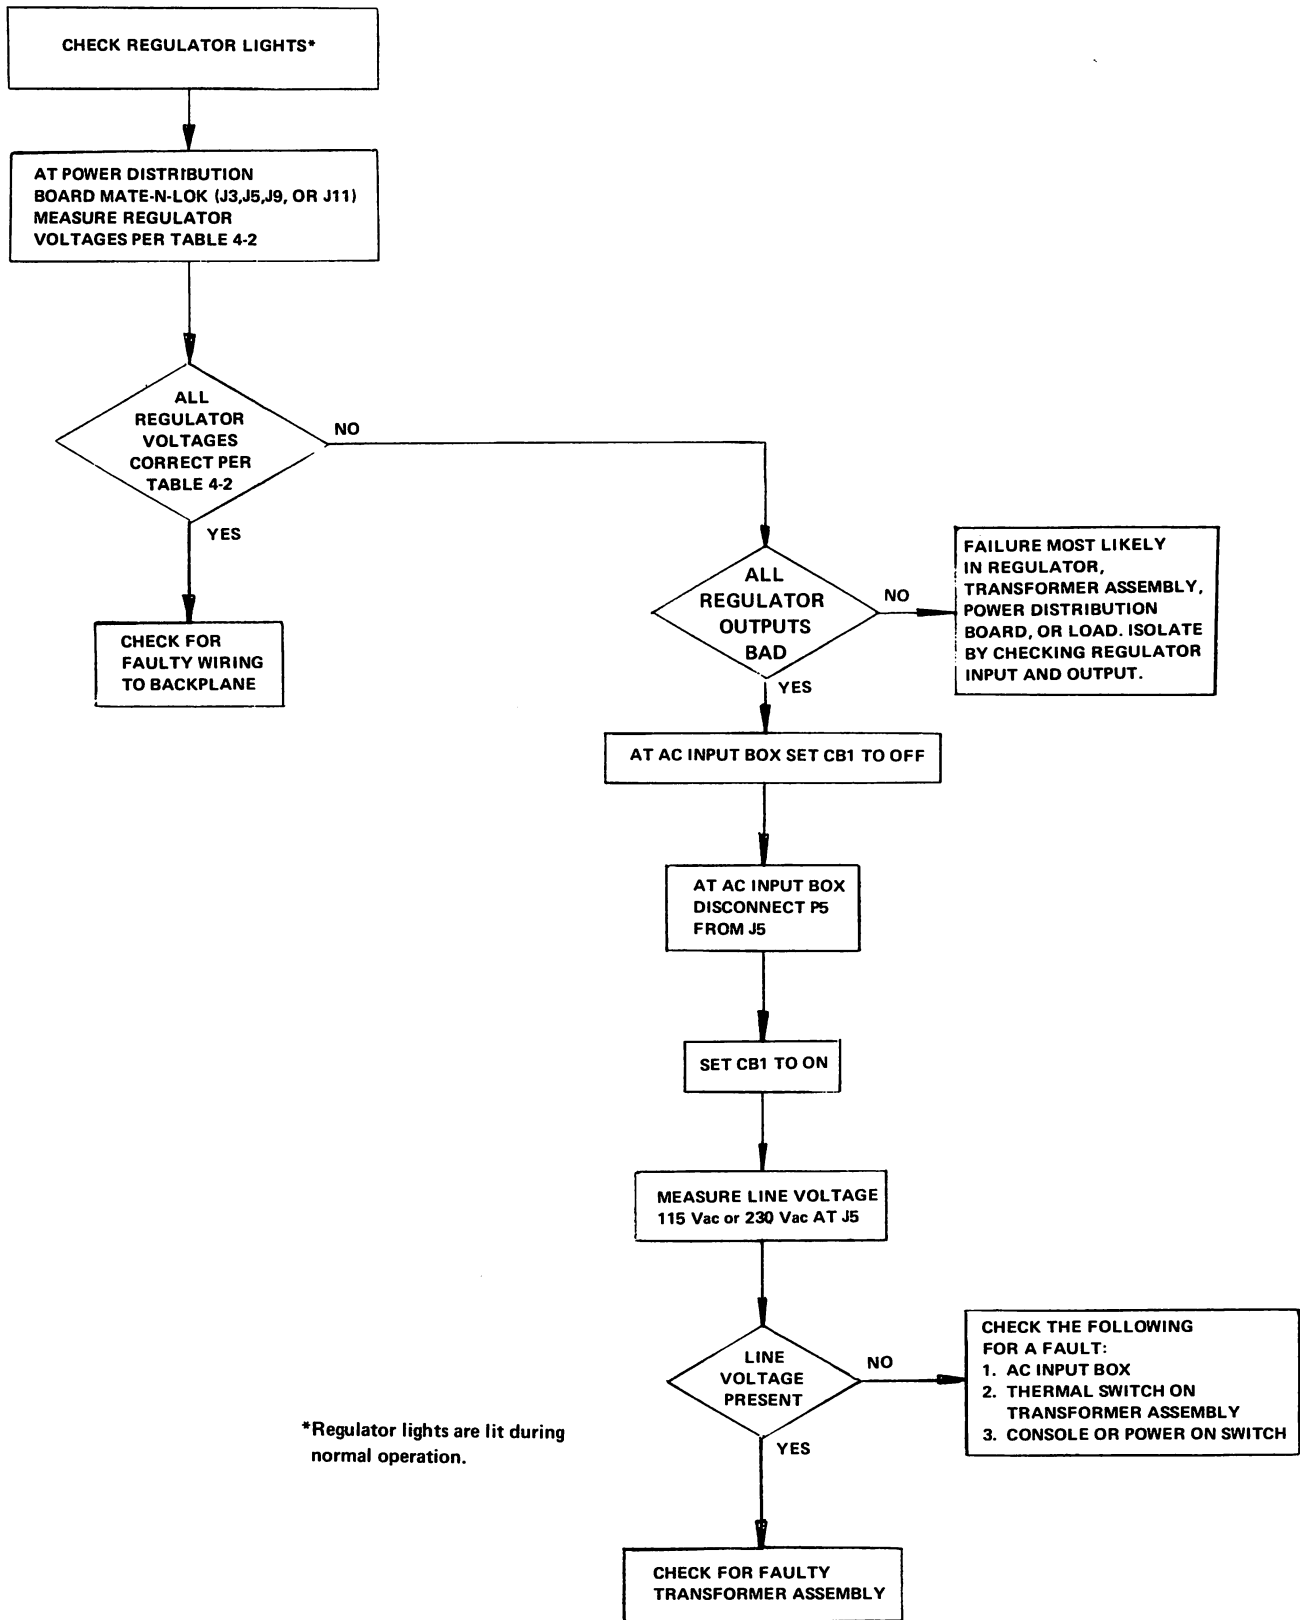

Figure 4-1 H765 Fault Isolation Flowchart
The H765 power system (Figure 3-2) consists of field replaceable modules. Once a power system failure is discovered, the following steps and associated flowchart (Figure 4-1) can be utilized to isolate to a faulty module:
3. Utilizing the flowchart (Figure 4-1) and H765 power system schematic (Figure 3-2), isolate the faulty module.